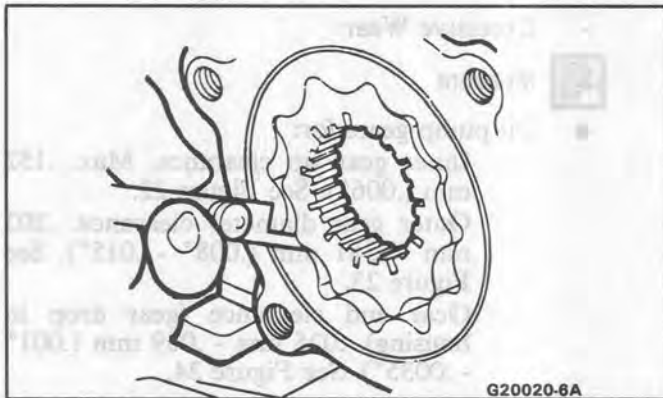

Figure 22 Inner Gear Tip Clearance-Gerotor
- Inner gear tip clearance. Max. .152 mm (.006"). See Figure 22.